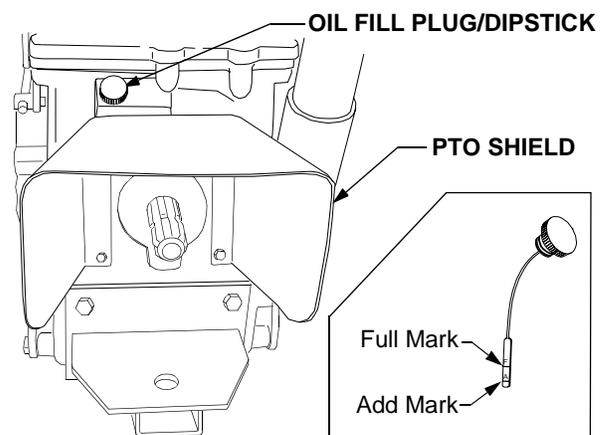

Figure 45
The oil fill plug/dipstick is located at the rear of the tractor, above the rear PTO shield. See Figure 45.
- Clean the area around the oil fill plug/dipstick to prevent debris from entering the transmission housing. See Figure 45.
- Withdraw the dipstick and wipe it clean, then reinsert and screw in all the way. Unscrew and withdraw again to read the oil level. Always keep the oil level between the add and full marks on the dipstick (See Figure 45).
- Clean the area around the transmission drain plug and the oil fill plug/dipstick to prevent debris from entering the transmission. Refer to Figure 45 and Figure 46.
- Clean the area around the transmission oil fill plug/dipstick to prevent debris from entering the transmission (Refer to Figure 45) and remove the plug.